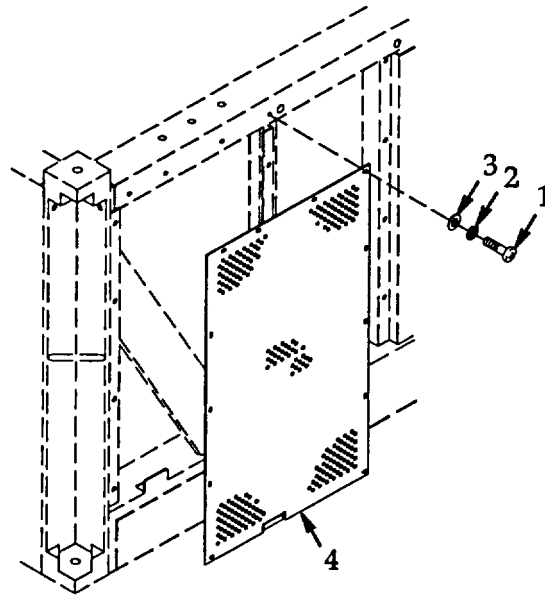

Figure 4-23. Front Screen.
- a. **Removal.** See figure 4-23.
- (1) Shutdown the FDECU per paragraph 2.4.
- (2) Remove 12 screws (1), lock washers (2), flat washers (3), and front screen (4). Discard lock washers.
- b. **Installation.** See figure 4-23.
- (1) Install front screen (4) and align mounting holes. Secure with 12 flat washers (3), new lock washers (2), and screws (1).
- (2) Connect FDECU to power source and operate per paragraph 2.4.